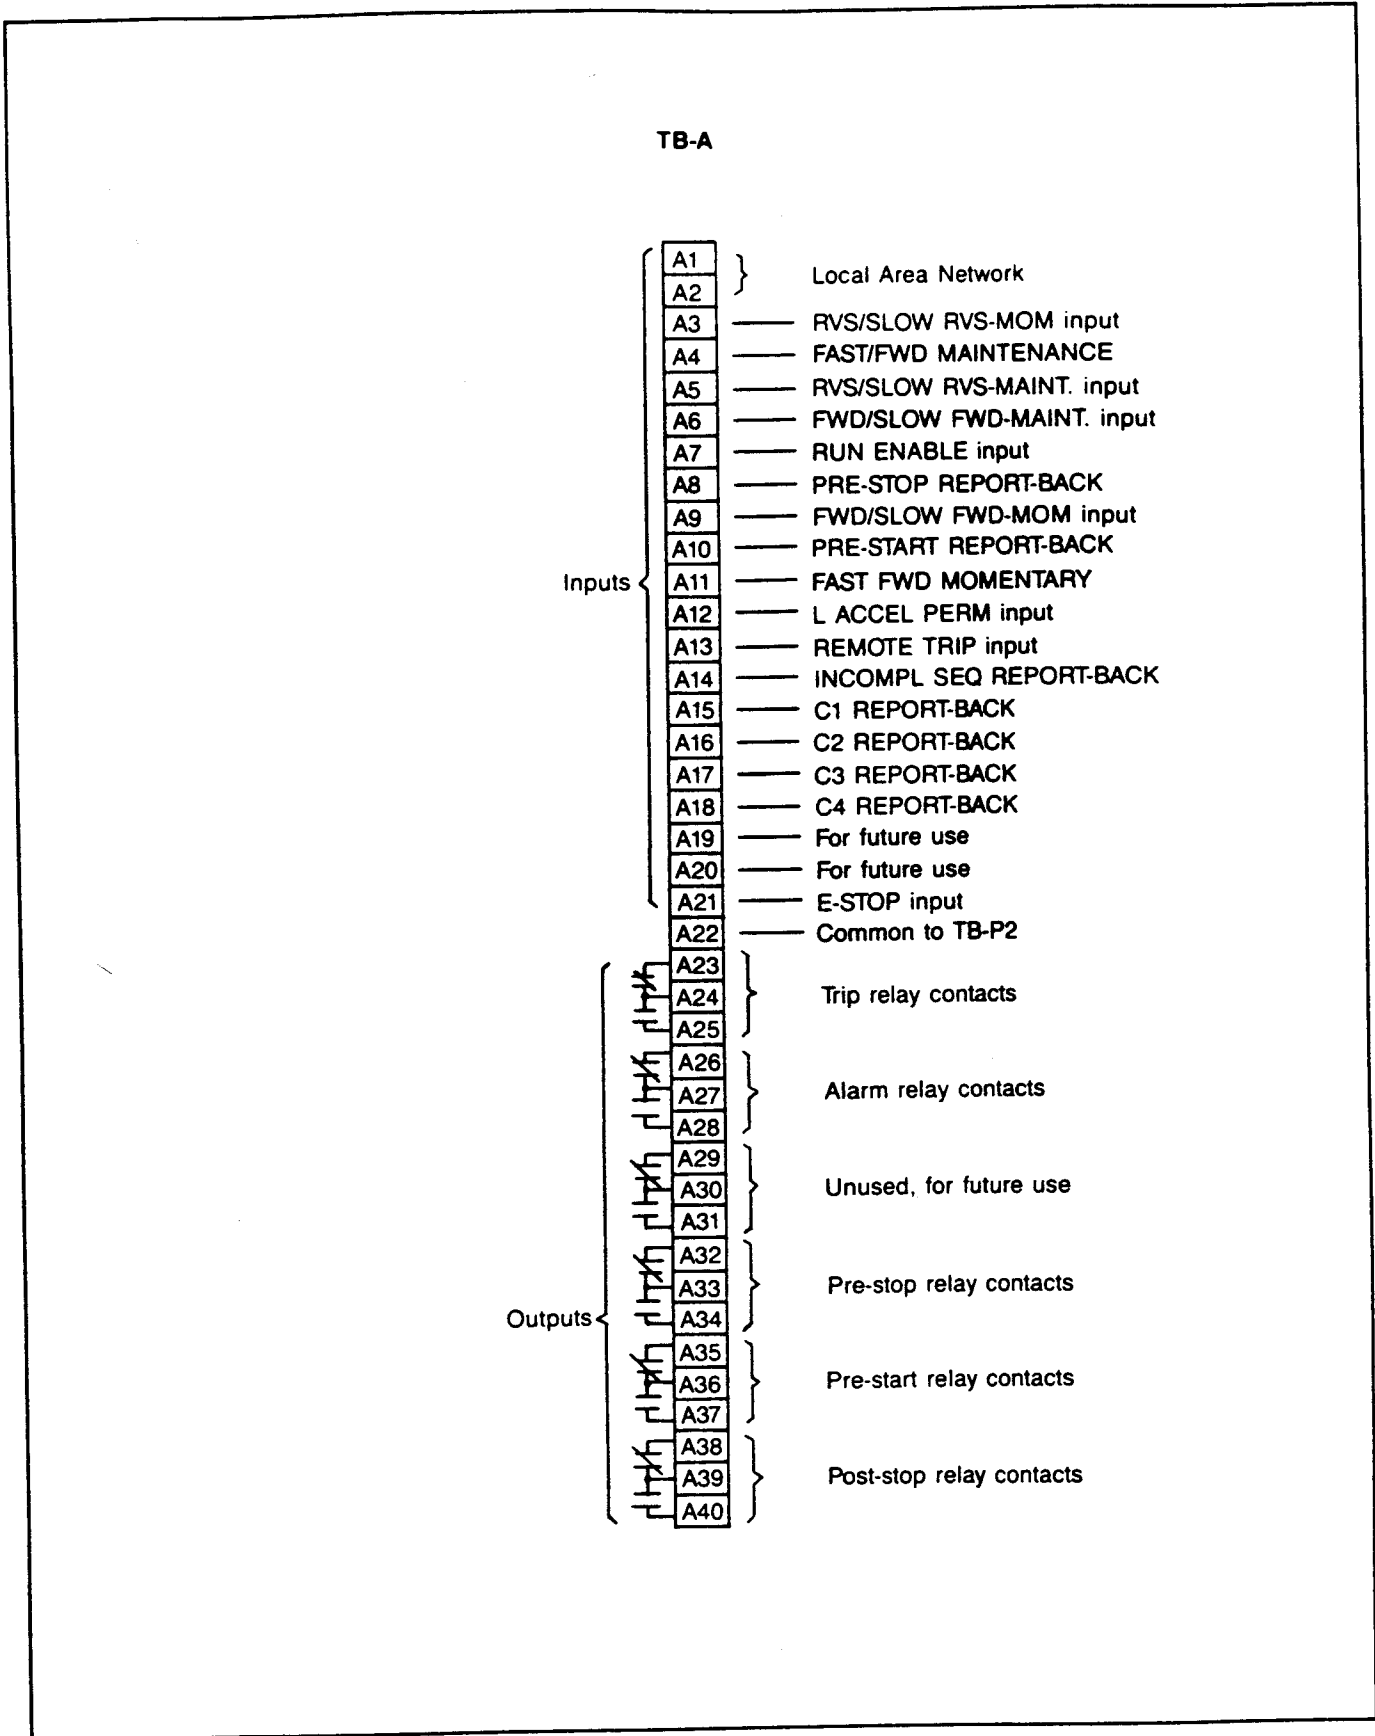

Figure 8.2 — Terminal Designations
8.4 Terminal Identification — Identification for the external terminals of the IQ-2000's TB-A, -B, and -P are shown in Figure 8.2. For terminal identification on the RTD Module's TB-R, refer to Figure 3.3.